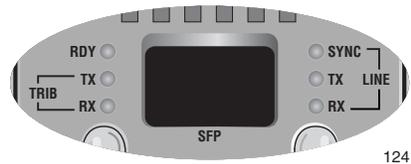

Figure 6. Line Card LEDs
**Line Card LEDs** Each line card has six LEDs, as shown in Figure 6.